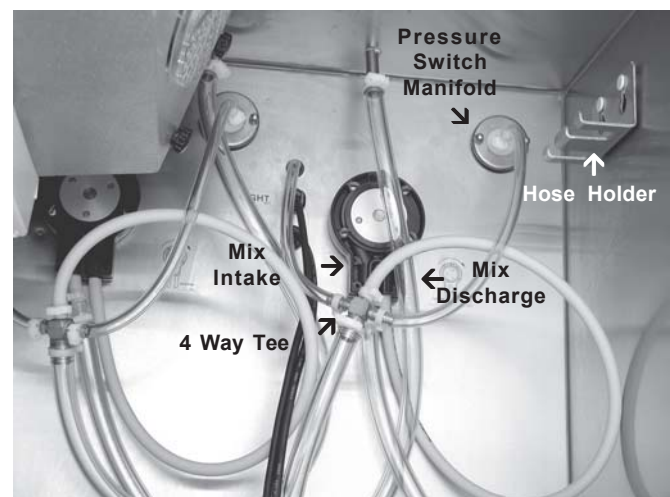

Figure 15. Mix Pumps
- A. Mix Operation: The peristaltic mix pump contains one continuous mix pump hose. When looking at the face of the peristaltic mix pump, the left side of the hose is the suction or pickup. The right side of the hose is the discharge. Mix is drawn up the suction side of the hose and transferred thru the discharge side to the freezer. Figure 15.